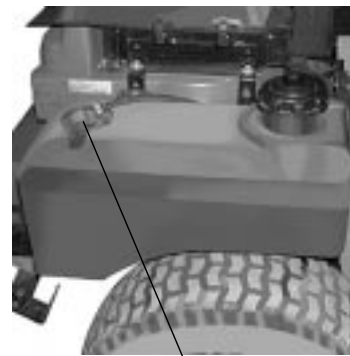

Figure. 4 Fuel Shutoff Valve
7. **Fuel Shutoff Valve:** (See Figure 4.) Located on top of the fuel tank(s). When turned in a clockwise direction until it stops, it will shut off the flow of fuel to the engine. When turned in a counterclockwise direction it will open and allow fuel to flow to the engine. Close this valve anytime the mower is trailered or you are not going to run the mower for a period of 30 minutes or more to prevent flooding the engine.